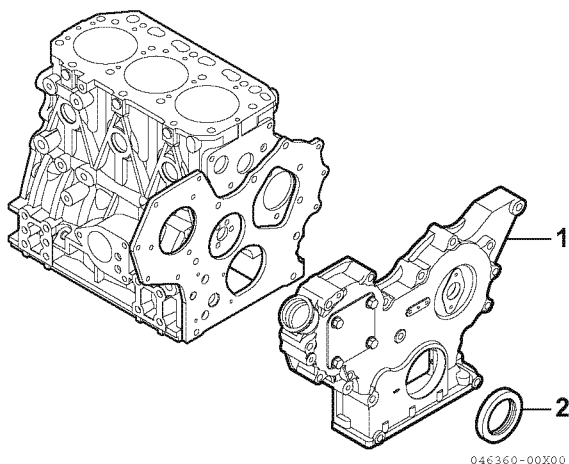

Figure 6-63
1. Remove the seal (**Figure 6-63, (2)**) from the cover (**Figure 6-63, (1)**).
2. Apply a continuous bead of ThreeBond Liquid Gasket No. 1207F, YANMAR Part No. 977770-1207F to the outside diameter of a new oil seal (**Figure 6-63, (2)**), and install in the gear case cover. Apply lithium grease to the lip of the seal.